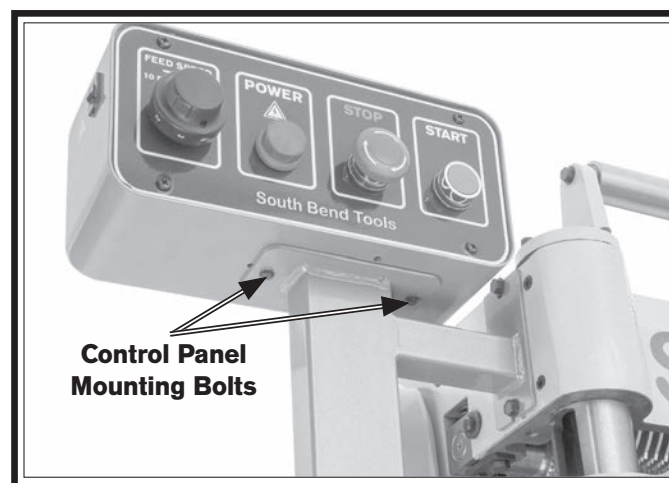

Figure 15. Control panel facing forward.
3. Remove (2) hex bolts from bottom of control panel (see **Figure 15**).
4. Rotate control panel 90° (so front is facing forward) and install hex bolts removed in **Step 3** (see **Figure 15**).